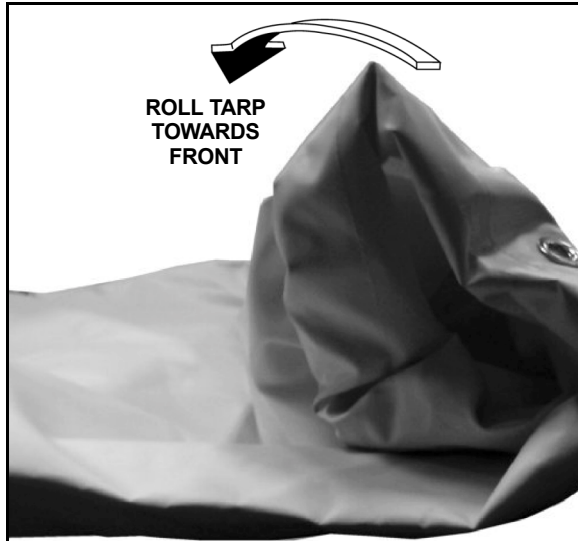

Figure 14
2. Pull the tarp away from the outer rear corners of the spreader, lift the rear tubular inner edge away from the hopper lip and roll the tarp up towards the front of the spreader (See Figure 14.).